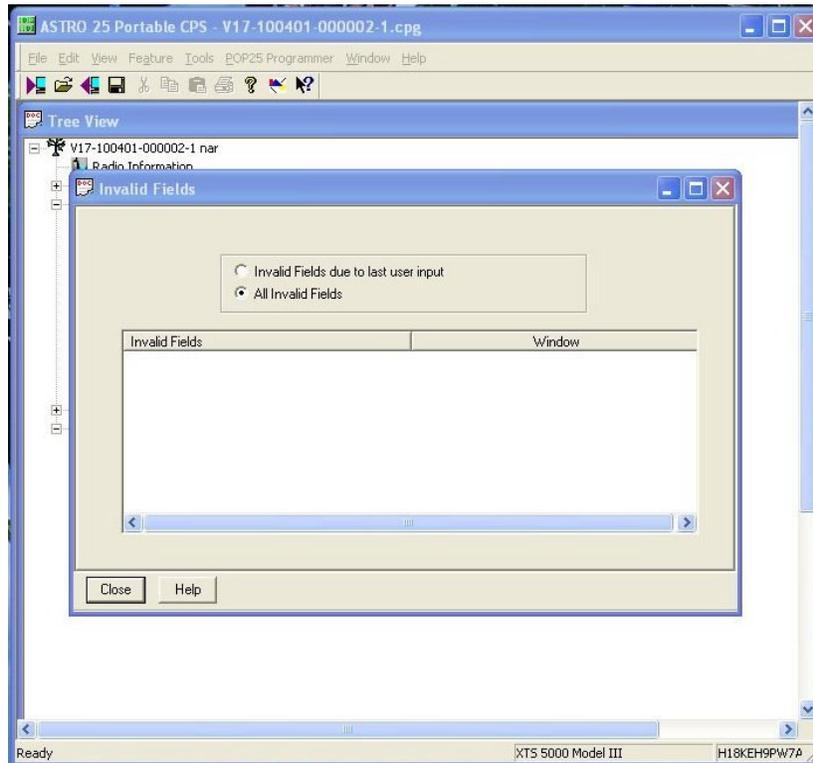

FIGURE 7: All Invalid Fields cleared
5) Check the Invalid Fields on the new codeplug for any other errors. At the top of the tool bar, click on VIEW and select "INVALID FIELDS". If the box is empty then, you can now save the new codeplug. See Figure 7.